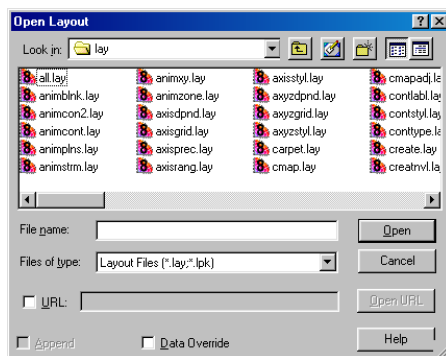

Figure 1-10. The Open Layout dialog for Windows.
1.2.5.2. File Dialogs in Windows. Figure 1-10 shows the Open Layout dialog for Windows. In the lower half of the dialog is the File name text field. If you know the complete path of the file you want to open or save, you can type it into this field, then click Open. You can also use this field to specify a file name filter. By default, the Open Layout dialog has a file name filter of ***.lay** and ***.lpk**. To change the default file extensions, see Section 30.1.4, “Default File Name Extensions.”